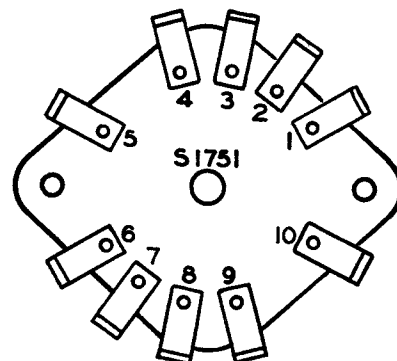

Fig. 28—Underside of control switch showing numbering of contacts
- (c) Key to contact numbering of S1751 as used in Tables 72 and 73 is shown in fig. 28.